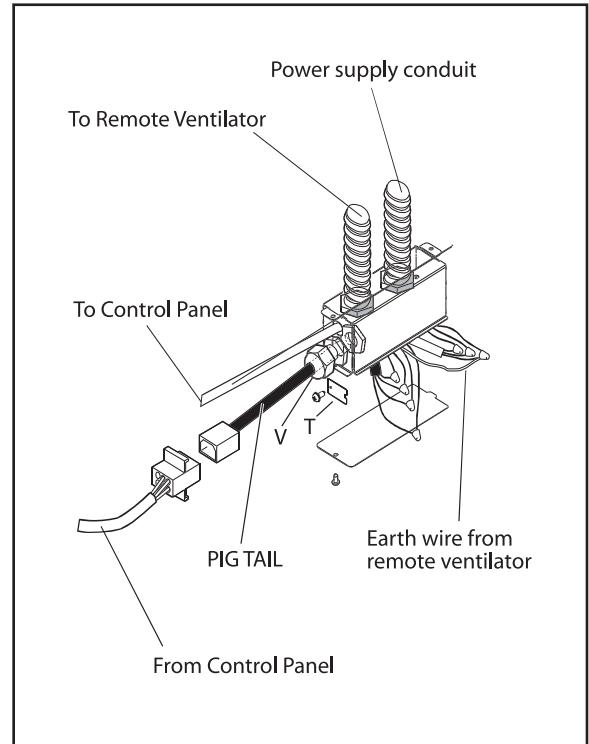

Figure 13 PHE & PH_Z
1. Remove the J-box cover as shown in Figure 13.
6. Connect wire clamp to "pigtail" as shown in Figure 13. Insert "pigtail" wires into J-box and fix wire clamp to J-box using nut supplied with wire clamp V.